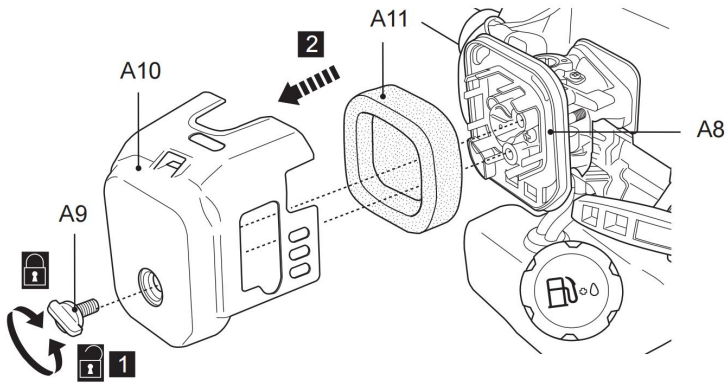

Fig. 77
1. Inspect the air filter regularly. Replace it with a new one if necessary (Fig. 77).